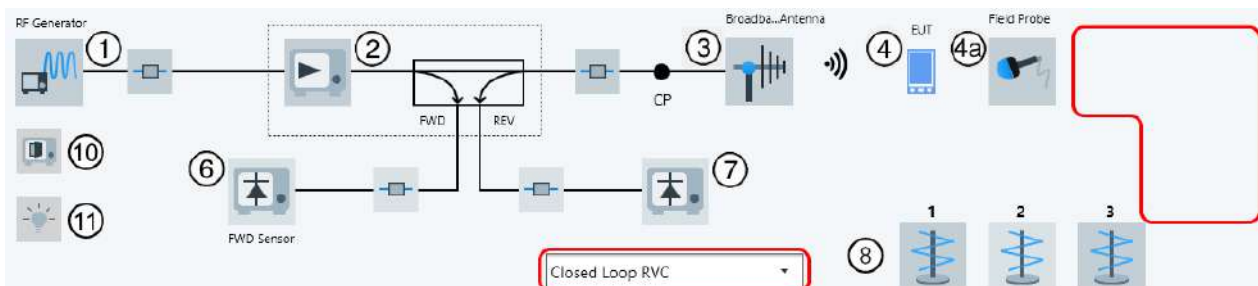

Figure 4-160: EMS hardware setup diagram for Closed Loop RVC in EUT Test View
- "Closed Loop RVC" method (see Figure 4-160) for fast reverberation (FRVC) according to standard ISO 11451-5 Annex G, available only with license "ELEMS-FRVC"